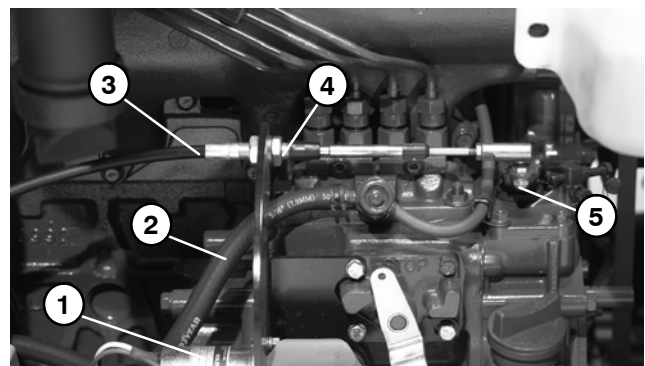

Figure 17
7. Disconnect fuel line from injection pump (Fig. 17). Cap fuel line and injector pump fuel inlet to prevent contamination.
8. Disconnect throttle cable from the speed control lever by removing the washer and lock nut. Loosen jam nut and take cable from mounting bracket (Fig. 17).
8. Connect throttle cable to the speed control lever with washer and lock nut. Install cable to mounting bracket (Fig. 17). Adjust throttle cable (see Traction Unit Operator's Manual).
9. Connect fuel line to the injection pump (Fig. 17).